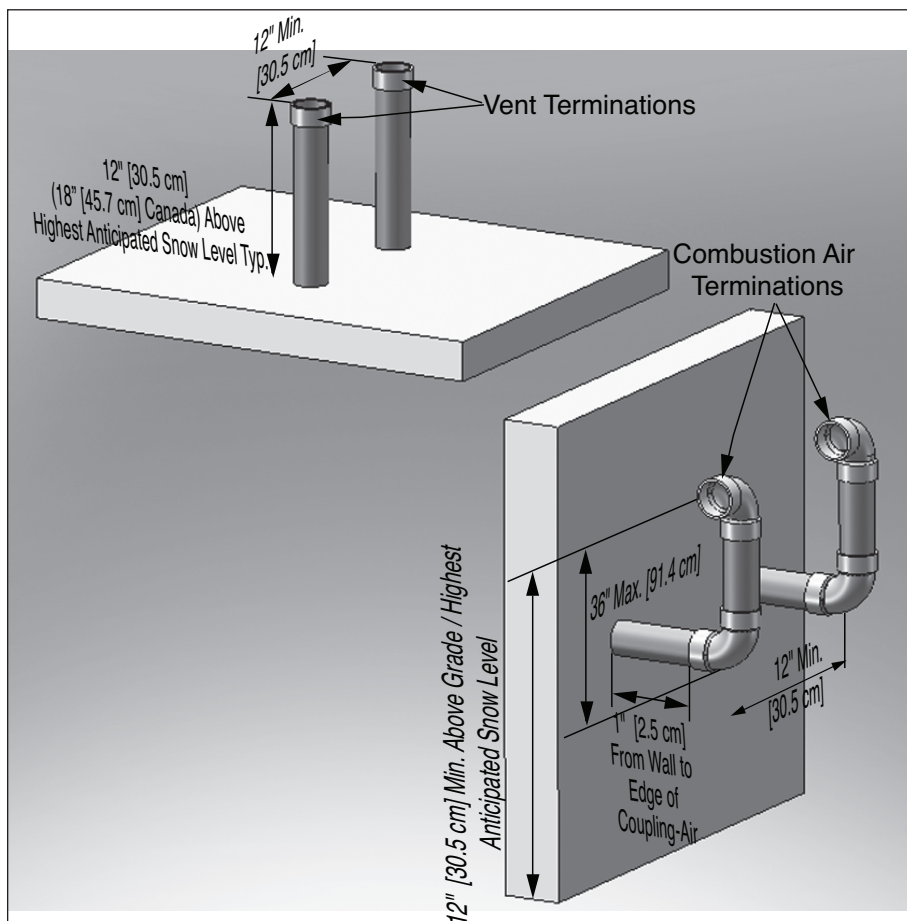

Fig. 13 - Direct Vent - Vertical Vent and Sidewall Combustion Air Terminations of Multiple Prestige Boilers
2. Each vent and combustion air termination must be a minimum 12" [30.5 cm] from the adjacent termination for installations in the U.S. as shown in *Fig. 13*. For installations in Canada, provide clearances as required by CAN/CSA B149.1.